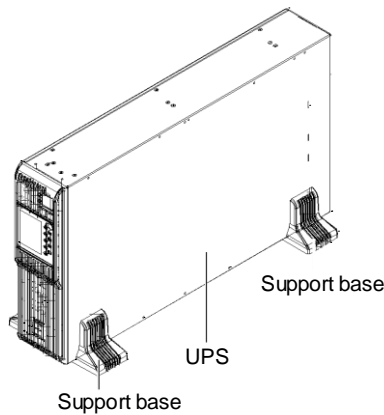

Figure 2-2 Installation complete
3. Place the UPS on the support bases and support base extensions, as shown in Figure 2-2.
For tower installation, two pairs of support bases should be placed respectively at both sides of the UPS, as shown in Figure 2-2. Otherwise, the UPS may be dumped.